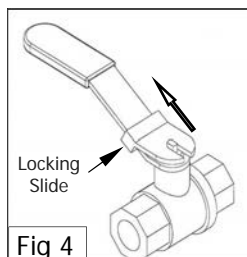

Fig 4
- a. Lift locking slide on valve handle (Fig 4) to release valve.
- c. When valve is closed, locking slide will drop down over locking valve to prevent accidental opening of valve as shown in Fig.4.